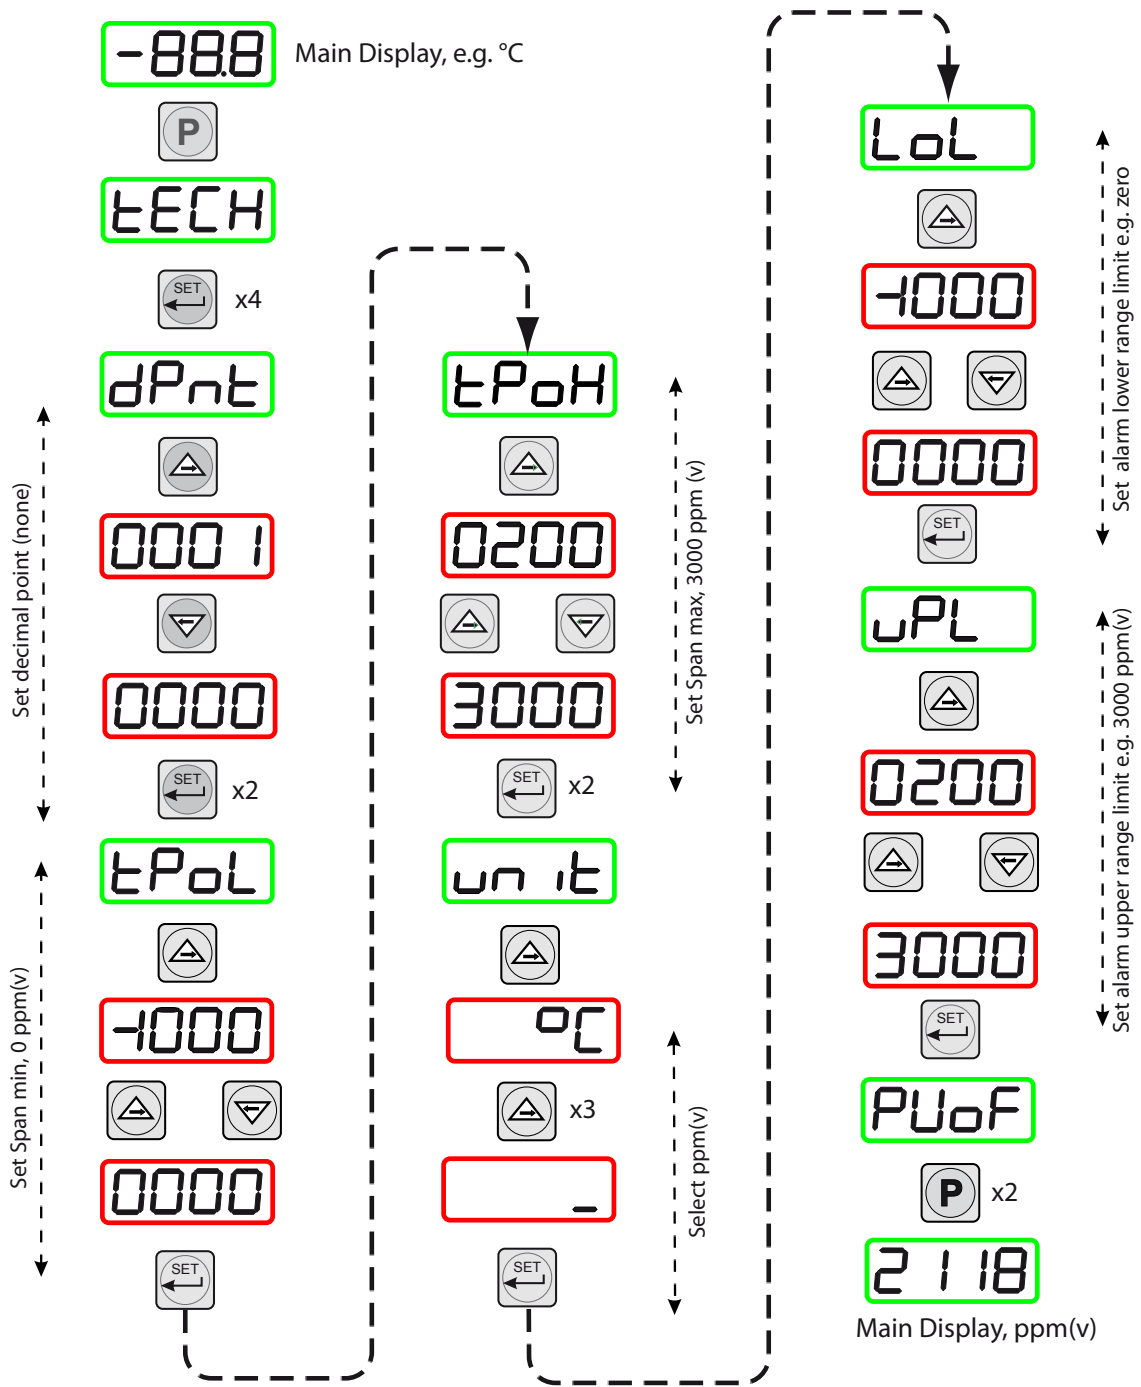

Figure 29 Set-up Monitor (to read ppmv)
*Figure 29* shows the operational key sequence.